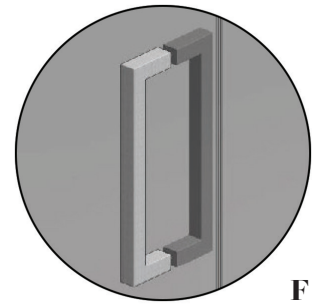

FIG 22.
- Remove the handle from the wrapper, dismantle and re-assemble onto either side of the door. Take care to ensure the plastic bushes are located inside the locator holes and the locking hex screws are tightened so the handle is tight and secure (FIG 22).